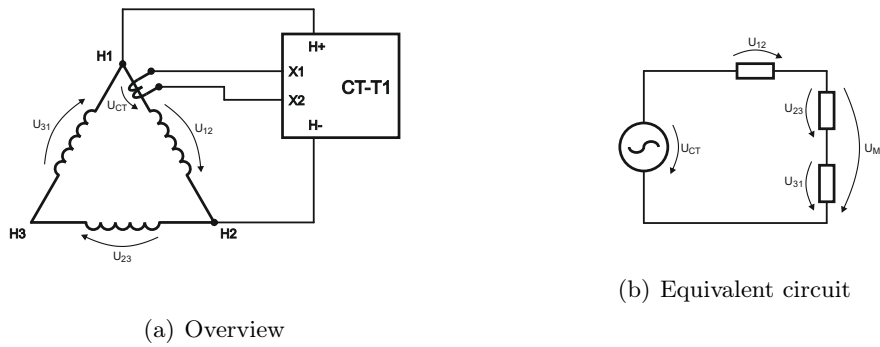

Figure 3.2: CT under test built into Δ power transformer (TR factor 2/3)
If the CT under test is built into a Δ winding power transformer and the according winding can not be short circuited, a compensation factor needs to be applied. Figures 3.2 and 3.3 show the measurement setup and the equivalent circuit of the high current side.
- A turns ratio correction factor of 2/3 needs to be applied if the $H1-H2$ cables of the CT-T1 are connected to the CT under test and the associated coil (Figure 3.2).